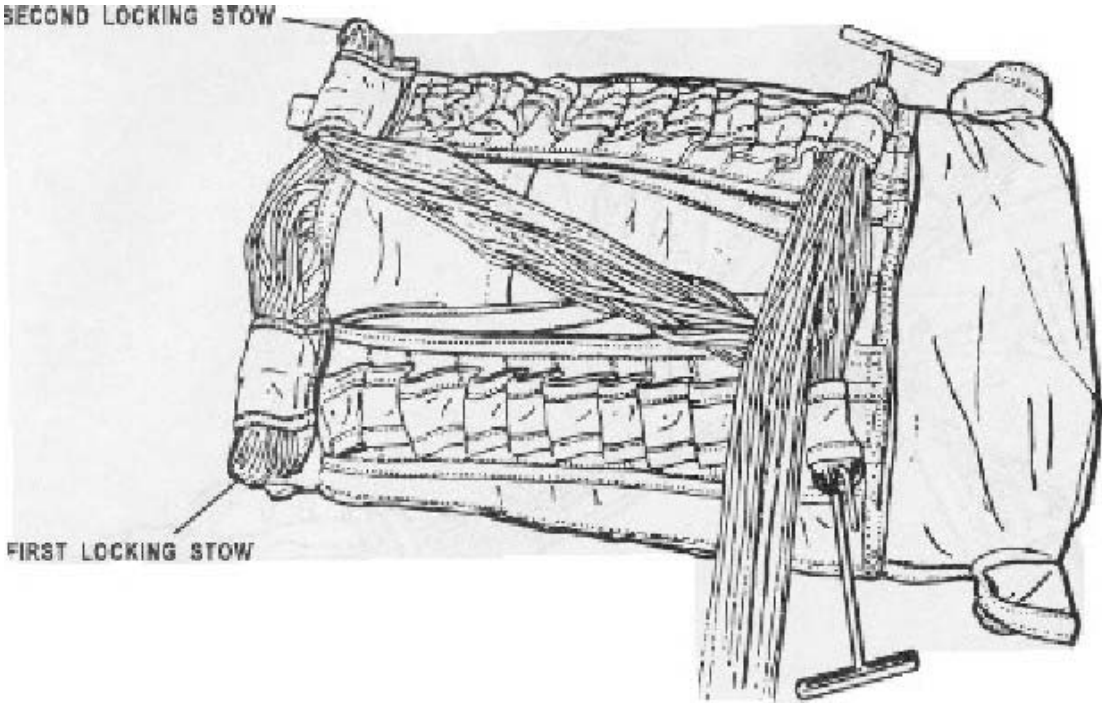

Figure 3-4
8. Close the deployment bag with a locking loop closure and stow the suspension lines. (See Figure 3-4)